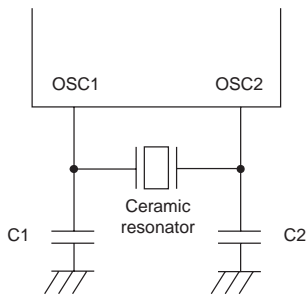

Fig. 2 Ceramic Resonator OSC Circuit ILC00151
- (*1) When oscillated internally under the oscillating conditions in Fig.2, up to the oscillation amplitude generated is allowable.